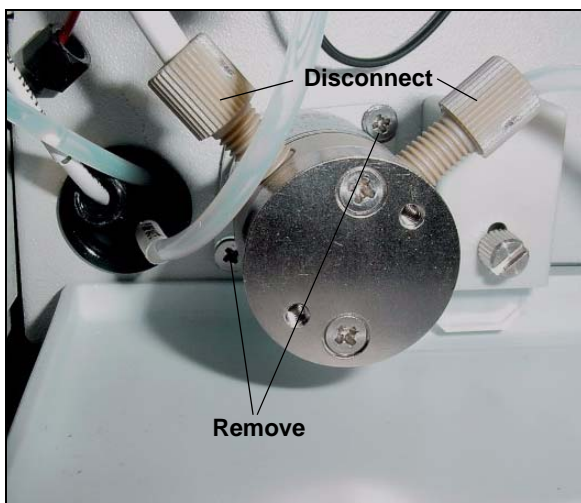

Figure 5-15. Eluent Valve
4. Disconnect the two liquid lines connected to the eluent valve (see Figure 5-15).
5. Unscrew and remove the two screws that attach the valve to the component panel (see Figure 5-15). Save the screws.